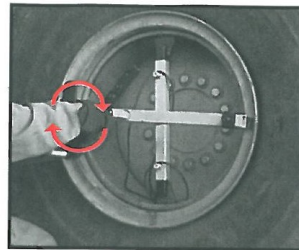
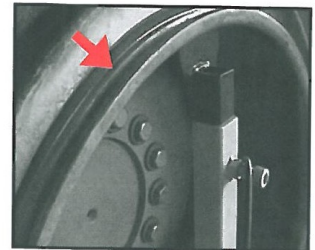

FIGURE 5a
FIGURE 5b
- Turn the handle clockwise (**See Figure 5a**) onto the threaded enter rod, simply turn while standing to one side until the push feet press against the rim flange, pushing the rim flange and bead of tire pass the "O" Ring groove easy installation of the "O" Ring (**See Figure 5b**).